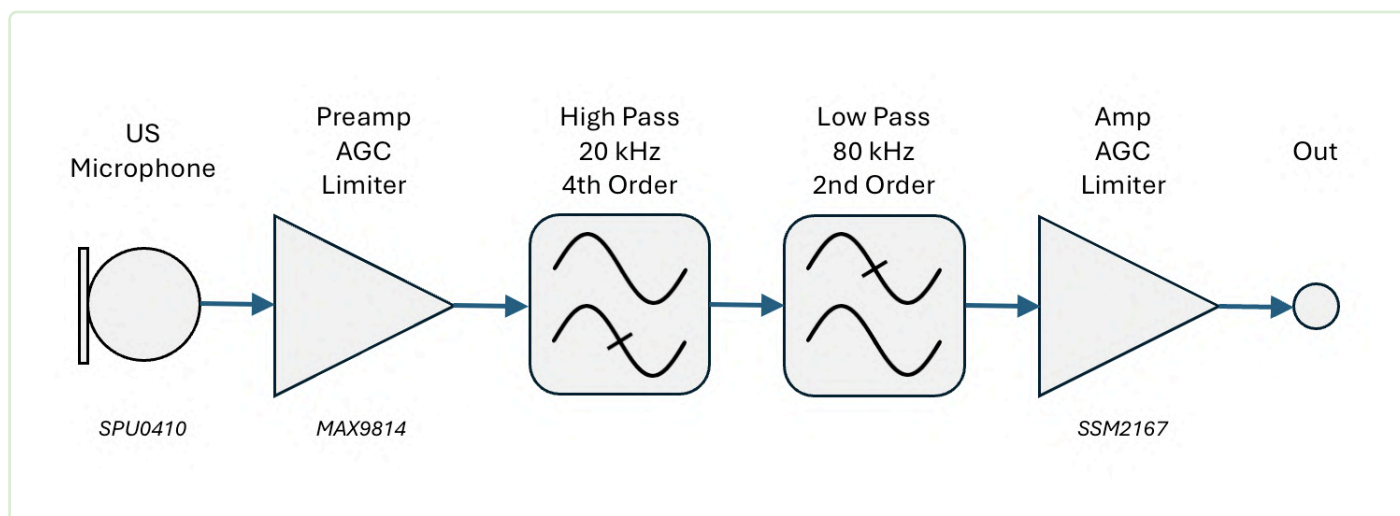

Figure 1: The block diagram of the bat detector. The last module on the far right is not needed here.
**Figure 1** shows its block diagram. The detector is logically constructed: a microphone that is also sensitive to ultrasonic signals is followed by an amplifier with an automatic level control. After the signal bandwidth has been limited by the series connection of a high- and low-pass filter, a further amplification with a second level control is carried out.
A suitable microphone of the type SPU0410HR5H is available from the usual distributors or at a reasonable price on eBay. The second block from the left in Figure 1 (preamp/AGC/limiter) is a MAX9814 on a small circuit board, which is also available ready-made for a few euros on eBay. The original microphone on this module has been removed. The high-pass and low-pass filters are built on a prototype board. The signal was routed from directly after the low-pass filter cable to the input of my oscilloscope using a coaxial cable. The output amplifier of the bat detector with an AGC and a limiter based on an SSM2167 was not used here.